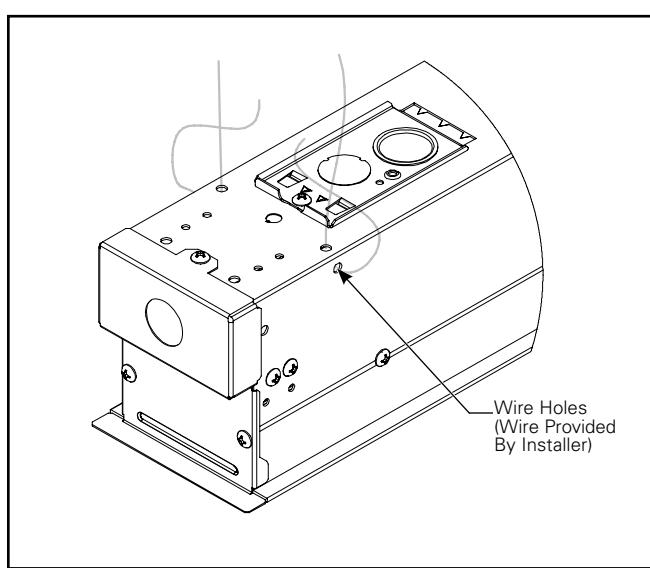

Figure 7.
- IMPORTANT:** Both ends of the fixture must be connected to the structure of the building using wire. Wire holes are provided on either side of the fixture on both ends. See Figure 7.